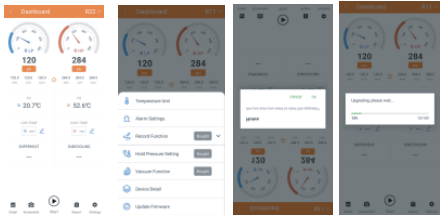

Figure 10 Device firmware upgrade
- 3.If the latest firmware needs to be upgraded, the device will enter the upgrade process , and the interface will show that Update... (Figure 10).